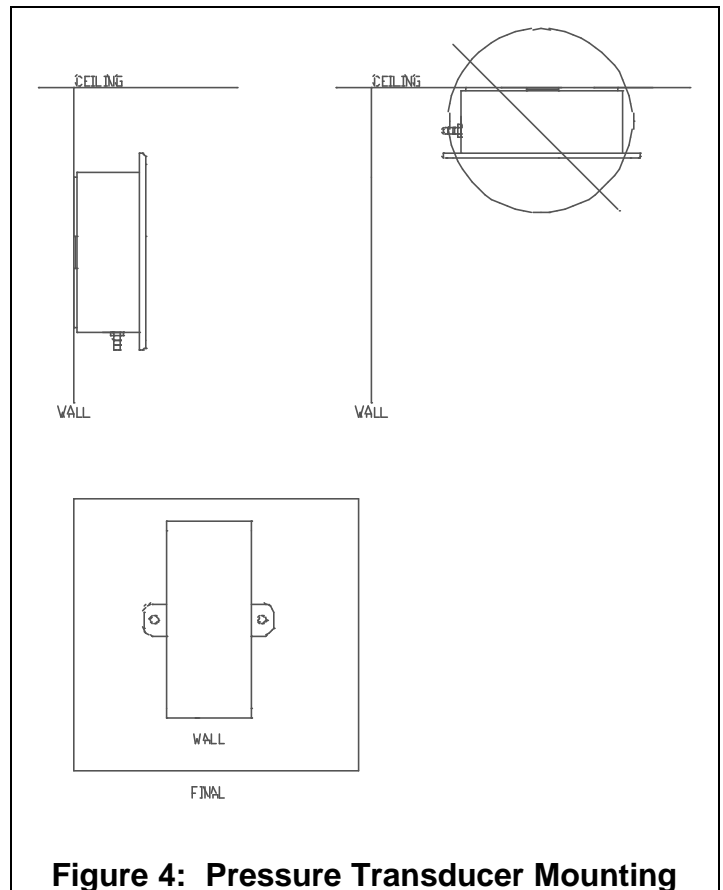

Figure 4: Pressure Transducer Mounting
- 7) Mount the pressure transducer within 10 feet of the flow station. The transducer must be mounted on a wall in the correct position per Figure 4 (screws not provided).